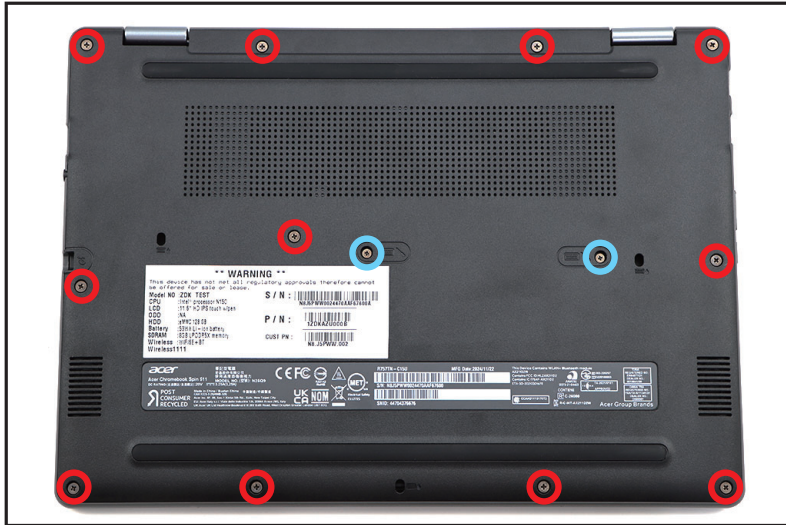

Figure 1-3. Base Cover Removal
1. Remove eleven (11) screws from the base cover. Then remove another two (2) screws securing the keyboard (Figure 1-3).